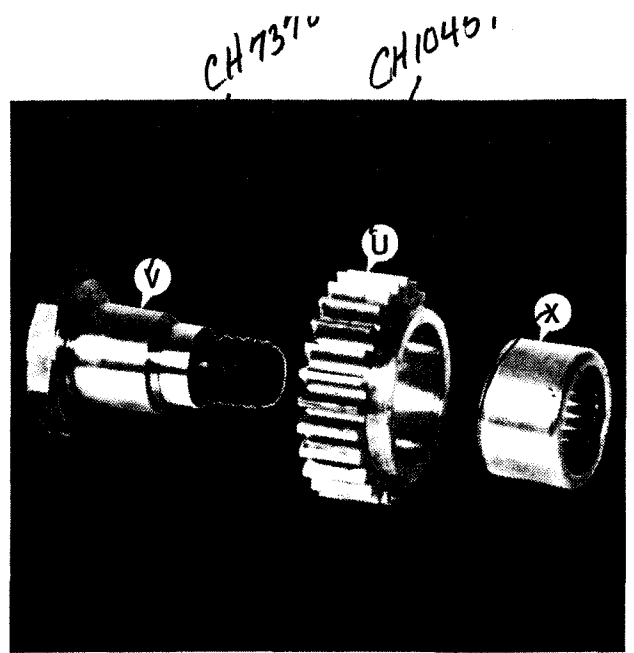
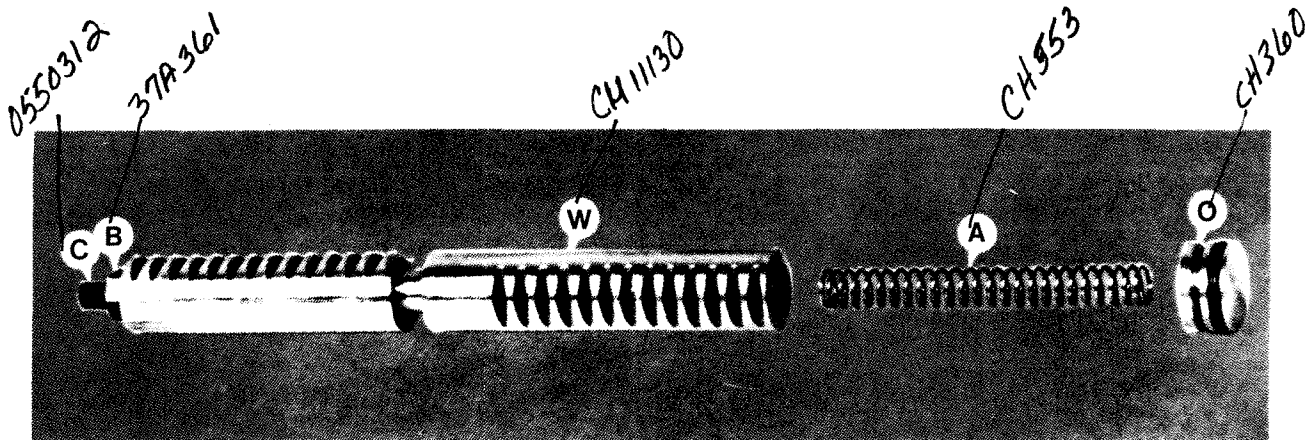

Figure 2.31 - Rack Gear, Stud, and Bearing
Figure 2.32 - Turret Rack and Components
Do not disturb adjusting screw "C", Figure 2.32, which determines rack travel.
18. Remove spring "A" and rack "W", Figure 2.32 .
9. Coat rack "W", Figure 2.32, with Mobil[®] Vactra[®] Oil No. 2 or equivalent.
If adjusting screw "C", Figure 2.32, has been disturbed, it may be necessary to adjust screw "C" to limit rack travel to a point short of where the teeth on gear "P", Figure 2.18, would hit the non-toothed section of rack "W", Figure 2.32 .
10. Replace rack "W", spring "A", and plug "O", Figure 2.32 .
If gear "U" fails to mesh or the fork fails to lock securely at all stations, adjust screw "C", Figure 2.32 .
16. With rack "W", Figure 2.32, at full travel, the index lever in the locked position, and gear "U" turned to the right, assemble stud "V", bearing "X", and gear "U", Figure 2.31 .